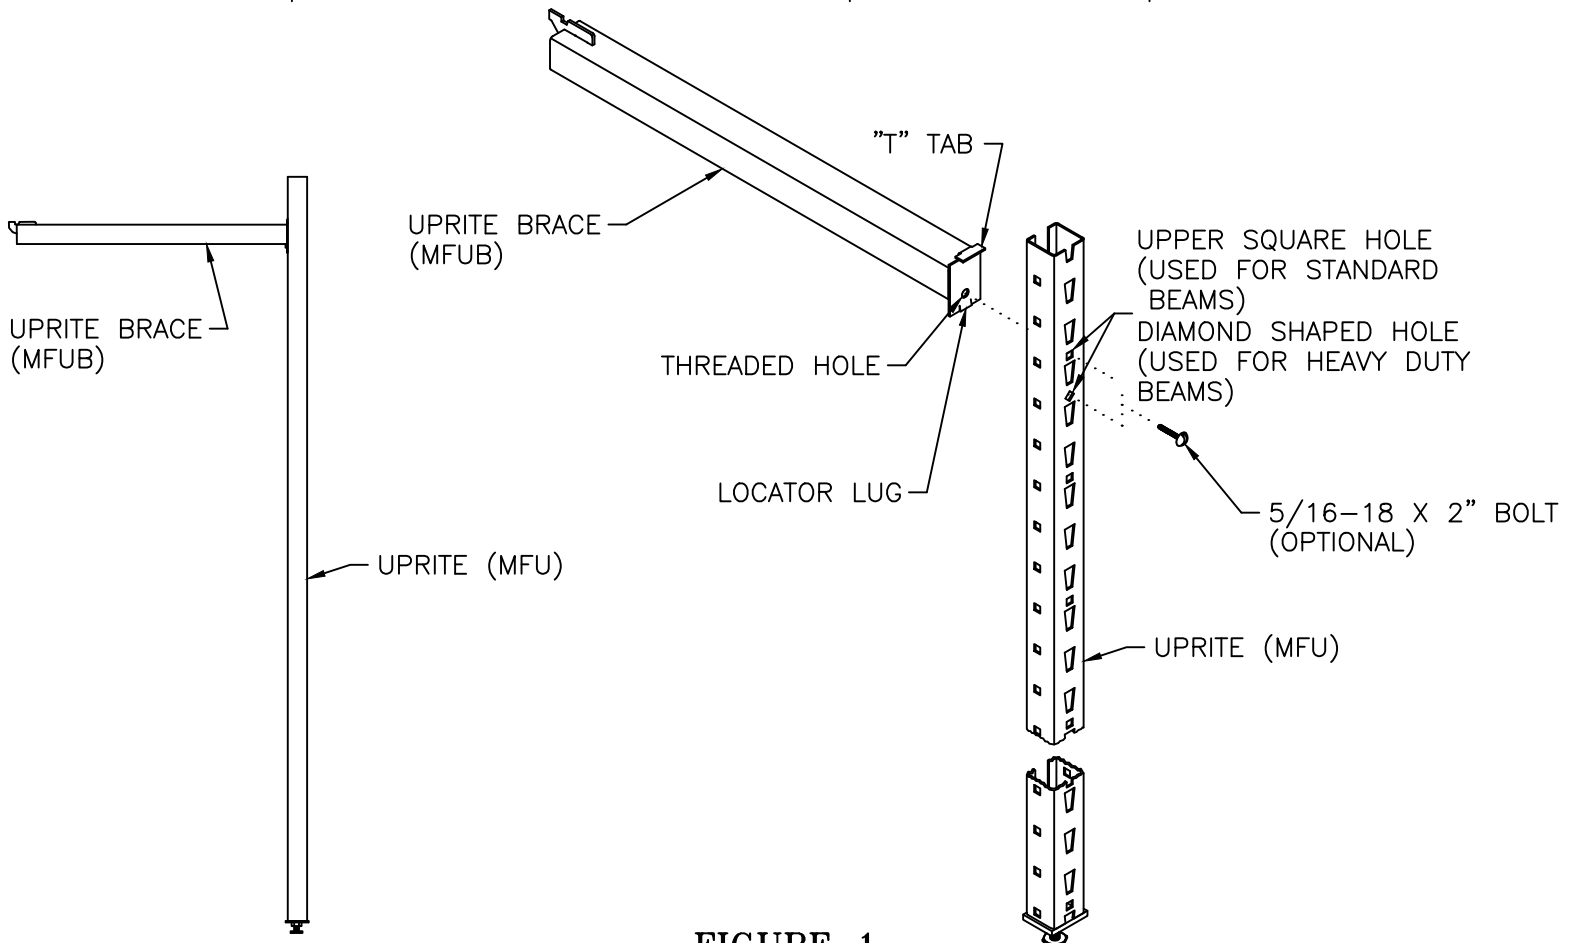

FIGURE 1
- a) Insert the "T" Tab of the Upright Brace into the rear opening of the upright and rotate into a vertical position (SEE FIGURE 1).